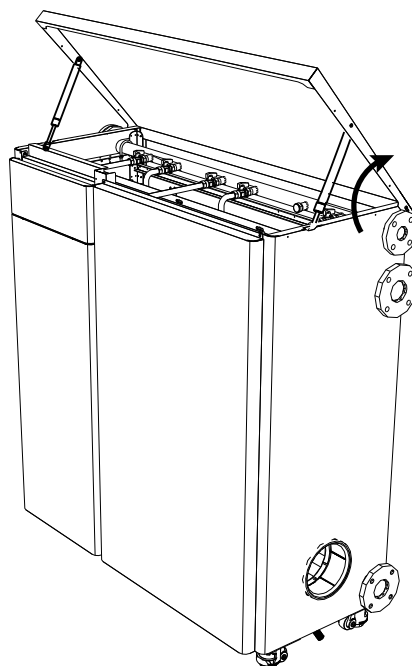

fig. 104
3. Lift the cover (See fig. 104)